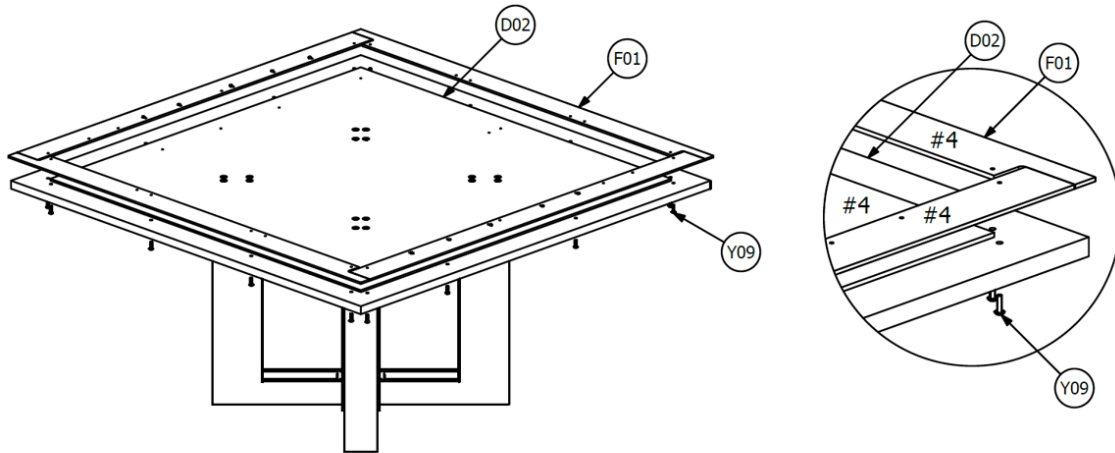

FIGURE 04: EDGE TRIM ASSEMBLY
1. Layout Edge Trims (F01) around Subtop matching the numbers marked on both, making sure the numbers always face up. See Figure 04.
2. Secure Edge Trims to Subtop from underneath using Fastener (Y09) into threaded holes of Edge Trim. See Figure 04.